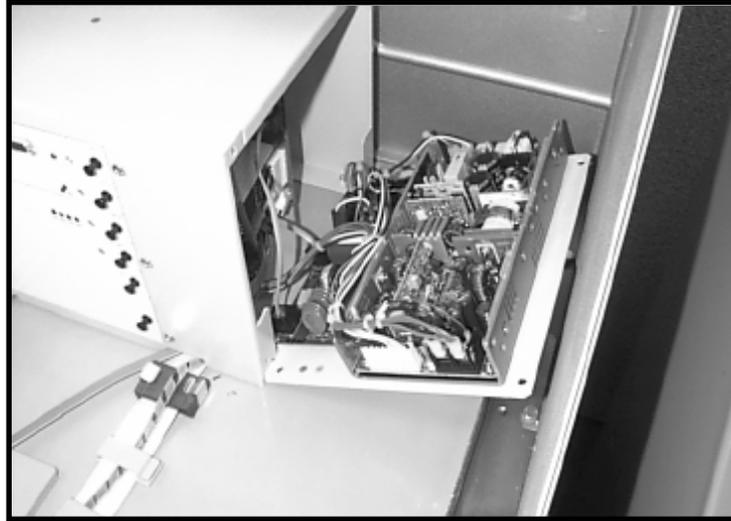

FIGURE 3-6
11. Disconnect the power cords from the side of the cage side. Open the right side panel of the card cage by removing the two top corner screws. (See Figure 3-6.)